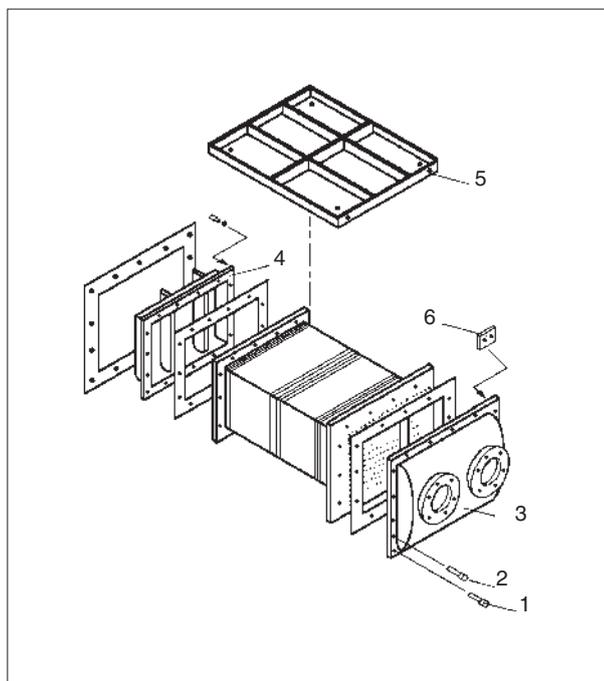

Fig. 1.
2) Remove the screw (1), fig. 1, which secure the end cover of the cooler element to the cooler housing, and pull the cooler element half-way out.